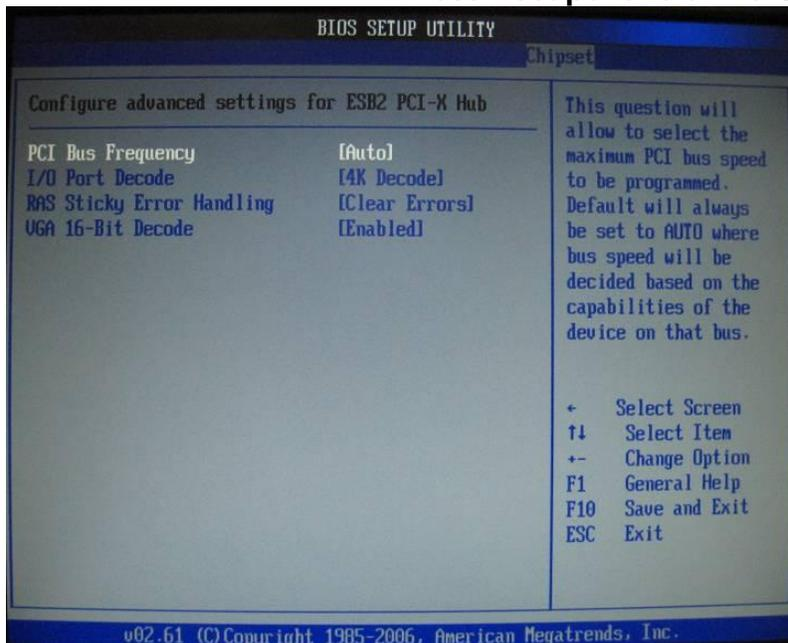

Figure 8-56 ESB2 PCI X Hub Settings Screen
46. On **ESB2 PCI-X Hub Settings** screen. **No changes** are necessary. (Figure 8-56).